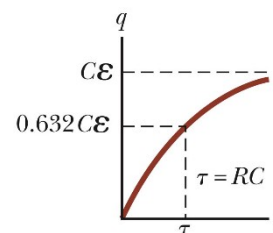

Figure 3
The capacitor charges with time as shown in Figure 3. Even though equation (1) and this curve indicate that the capacitor will never be fully charged, for most practical purposes we consider that the capacitor is fully charged after a time that is more than 5 time-constants have passed.
4. Now close the switch by pushing and holding the button down. Observe how the voltage across the capacitor changes with time. The voltage should rise as shown by ‘q’ in Fig 3.